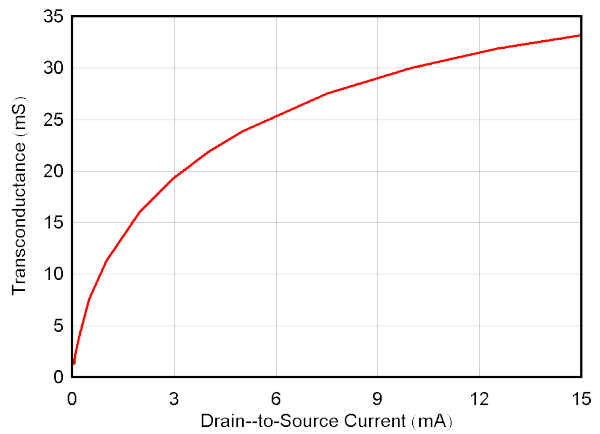
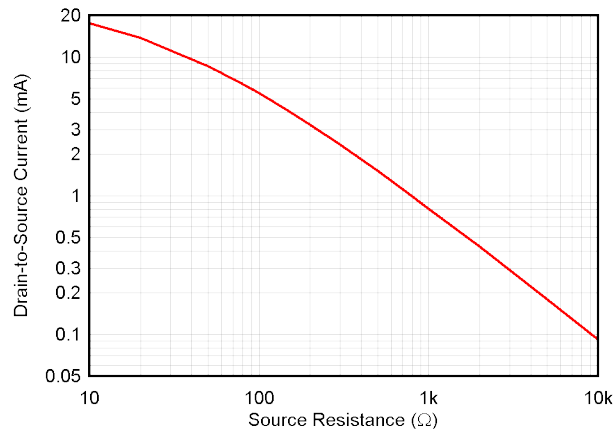

图 6-4. Common Source Transconductance vs Drain-to-Source Current
图 9-3. Drain-to-Source Current vs  $R_S$ ,  $V_{DS} = 5 \text{ V}$
Generally, higher gain results in improved noise performance. Gain increases as the bias current is increased as a result of increasing  $gm$  (see 图 6-4). As a result, the input-referred noise decreases as bias current is increased (see 图 6-9). Any JFET design must make a tradeoff between current consumption and noise performance. The JFE150, however, delivers significantly lower noise performance than most operational amplifiers at the same current consumption. The bias current ( $I_{DS}$ ) is set by the value of the source resistor,  $R_S$ , and the threshold voltage,  $V_T$ , of the JFE150. 图 9-3 is a graph showing nominal  $I_{DS}$  vs  $R_S$ .
$R_S$	Source resistor. Used to set bias of JFET; see 图 9-3. Resistor thermal noise directly impacts noise performance.
- The JFE150 bias current is set by selecting the desired bias current and noise tradeoff (see 图 6-11). The input-referred noise is dominated by the JFE150 bias current and gain. To set the bias current point, adjust the source resistance according to 图 9-3.